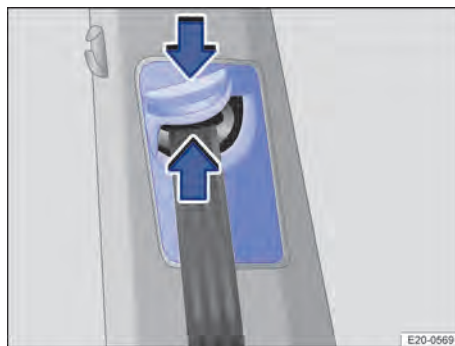

Fig. 27 Next to the front seats: seat belt height adjuster.
1. Push and hold the shoulder belt guide in the direction of the arrow → Fig. 27.